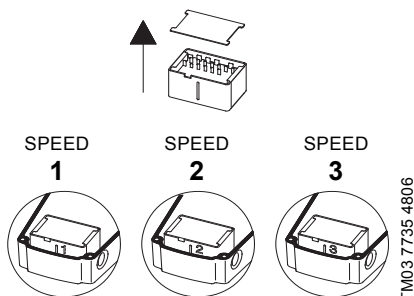

Fig. 14 Speed switch module
3. Pull out the speed switch module and re-insert it so that the desired speed is visible through the window in the terminal box (see fig. 14).